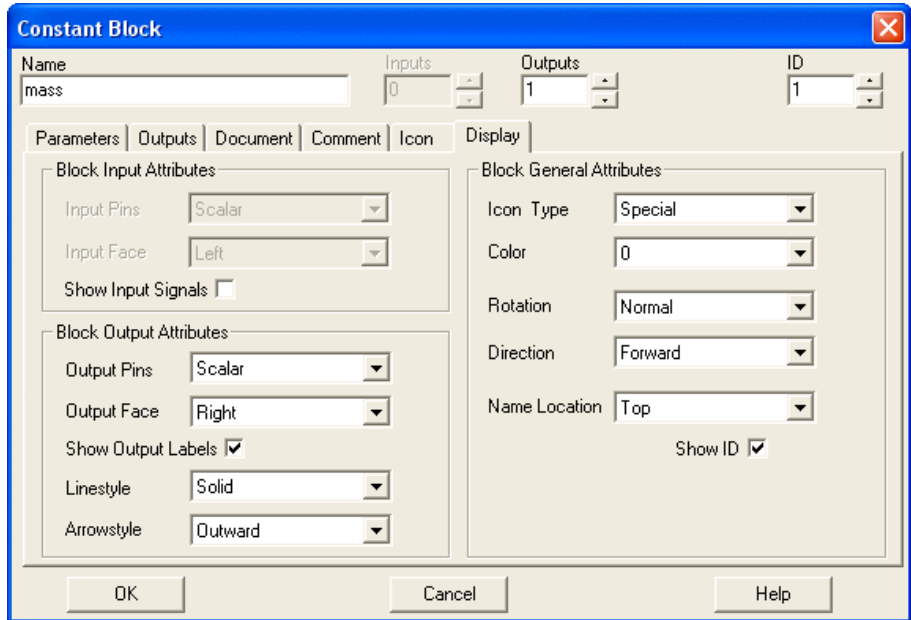

Figure 4-17. Constant Block Properties Dialog Box: Display Tab
5. Click the **Display** tab (refer to Figure 4-17).